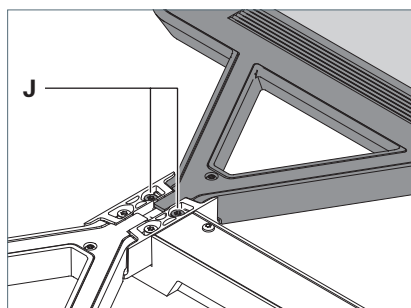

Fig. 27: Adjusting the luminaire head.
1. To lower a luminaire head, turn the screws **J**, which are holding this luminaire head, anti-clockwise, see Fig. 27.